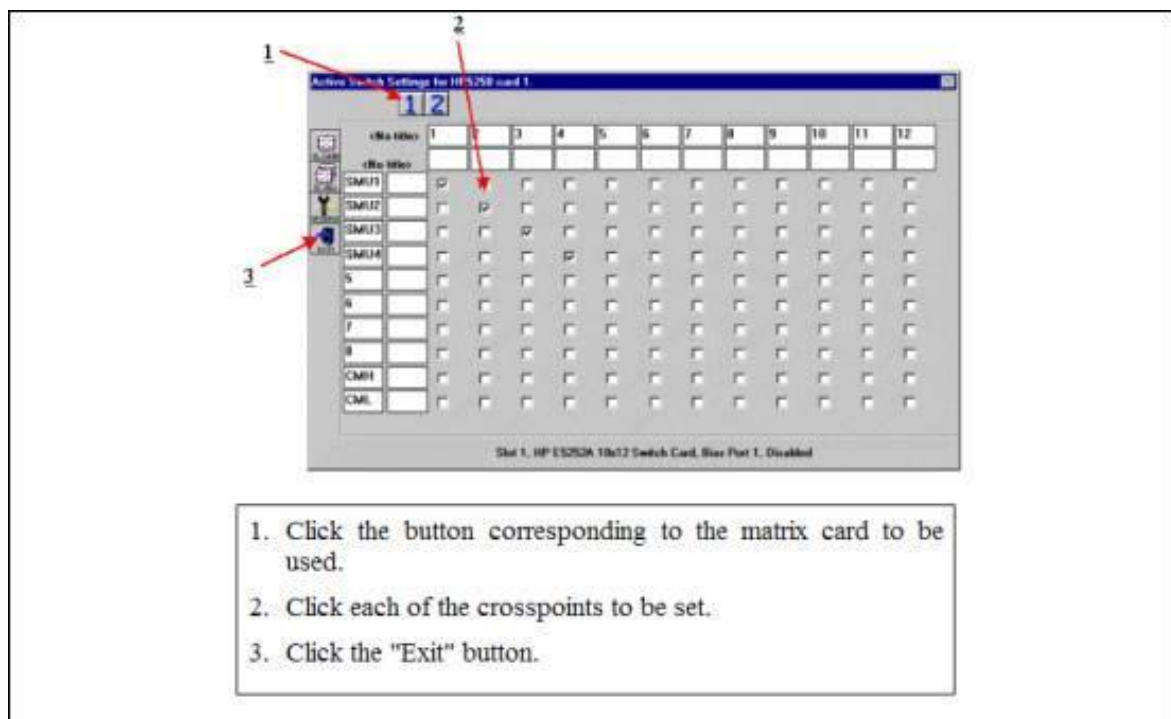

Figure 5
9.3.1.6 Select the check boxes that correspond to the pin to connect to the desired source/measurement channel. The upper labels on the columns correspond to the connections to the pin board that interfaces with the switching matrix. The lower column label shows the pin number on the probe card. The correspondence between the switching matrix channels and the probe card pins is determined by how the probe card is installed in the mount. The labels serve as a reference only and maybe edited for measurement clarity (Figure 5).